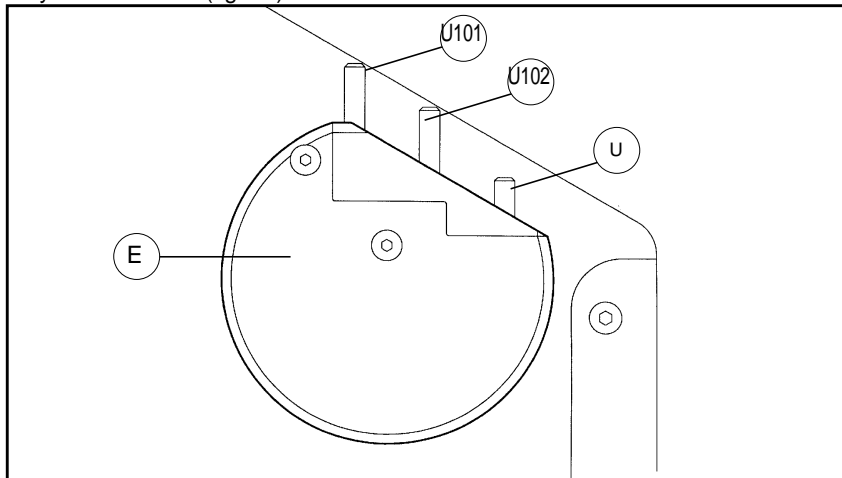

Fig. 12
A special device (E) is installed on the left-hand side of the machine to house the decoders when they are not in use (fig. 12).
- remove the cutting tool. The decoder must be replaced in its housing on the decoder pocket (E) on the machine (fig. 12, page 17), whereas the cutting tool must be placed in its housing on the tool board provided.